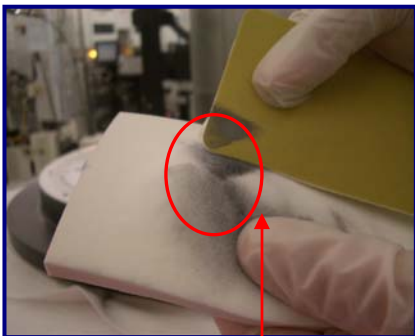

Fig 8: ScrubPAD loaded with deposition
Step 8: As Diamond ScrubPAD begins to load up with deposition, pull ScrubPAD across UltraSOLV® Sponge to unload (See Fig 8, 9 & 10)